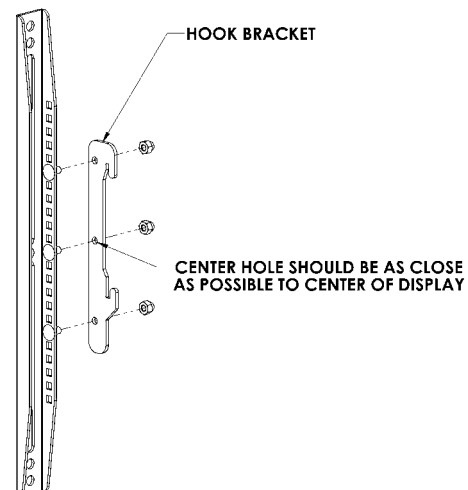

Figure 12. Adjust Hook Brackets
6. If necessary, remove the attaching hardware and move the hook brackets as close to the center line of the display as possible (see Figure 12). Re-install the hook brackets onto the interface brackets.